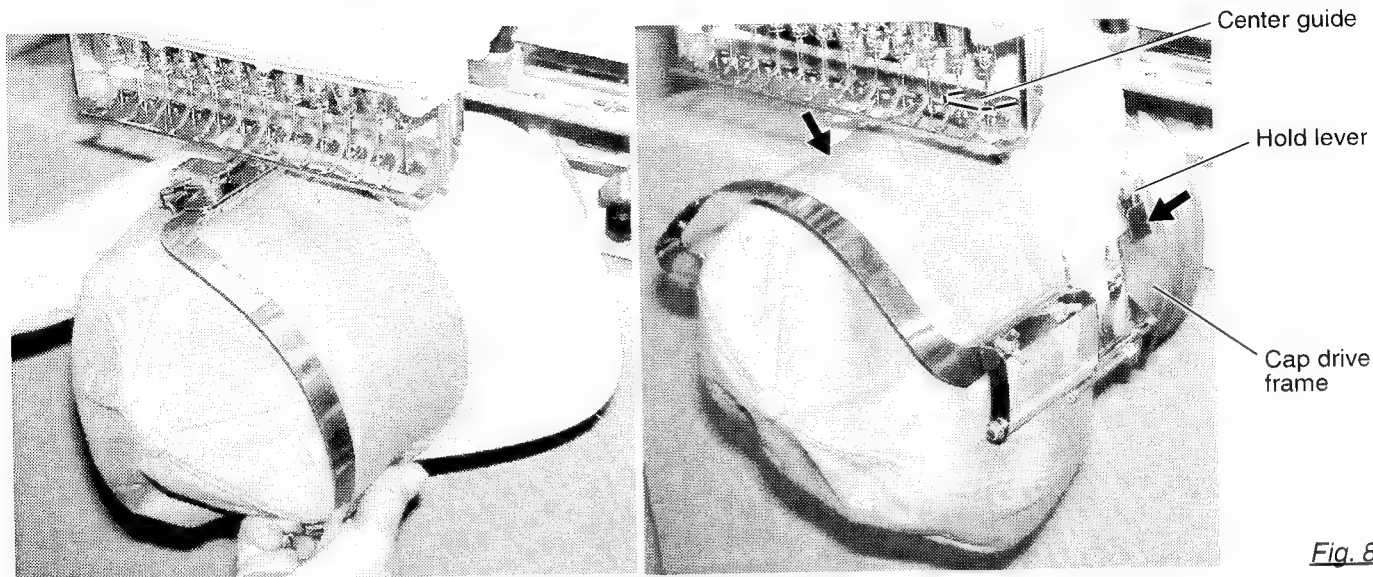

Fig. 8
8. As shown in Fig. 8, place the cap frame with the cap on cap drive assembly of the embroidery machine.